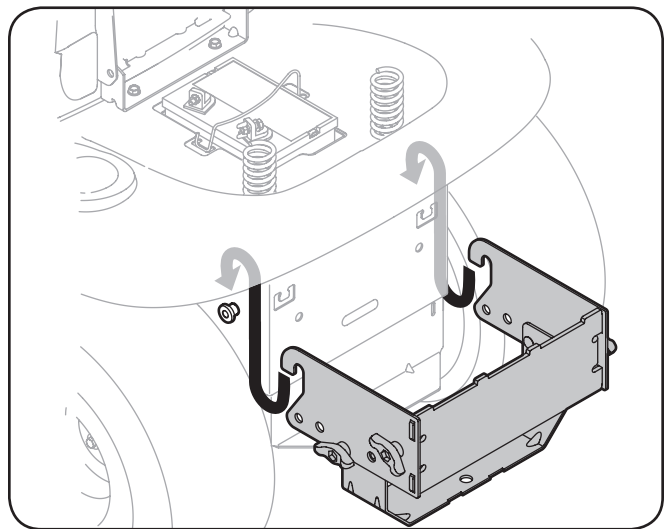

Figure 4-4
1. Place the hooked ends of the mounting assembly over the shoulder bolts, as in Figure 4-4, on the tractor and line up the hitch support bracket center hole with the hole on the tractor's hitch.